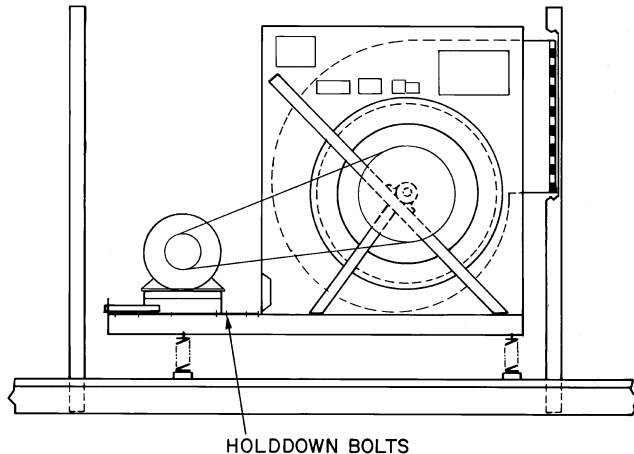

Fig. 51 — Motor Plate Adjustment
1. Loosen holddown bolts. (See Fig. 51.)